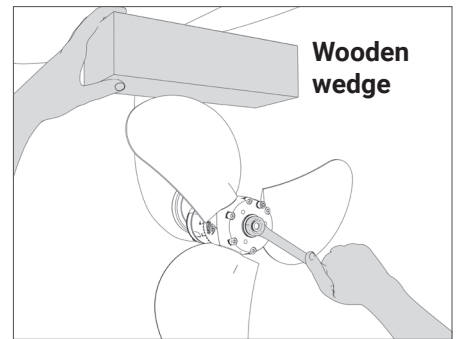

FIG. 3 | Rotation locking
- To avoid bending the propeller blades when turning, make sure you turn the blades in the thrust position (not in the feathering position), and lock the rotation with a wooden wedge, to be placed between the blade and the hull. (**Fig. 3**).